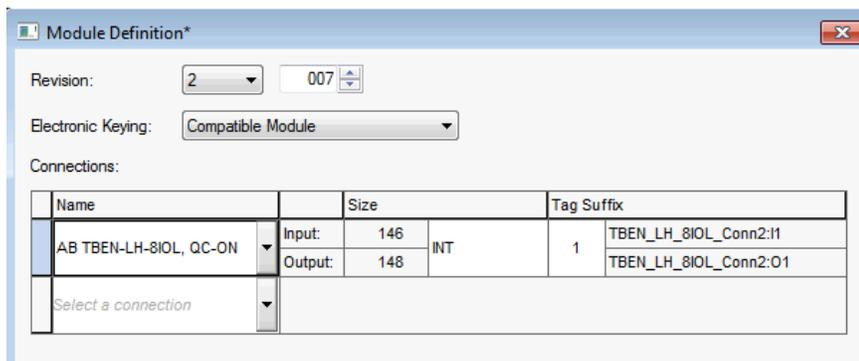

Figure 4.8 – QC_ON Connection setup
- Use “TBEN-LH-8IOL_QC_ON” connection from the *Connection Name* drop down list and select INT data format at the *Size* drop down list, per Figure 4.8